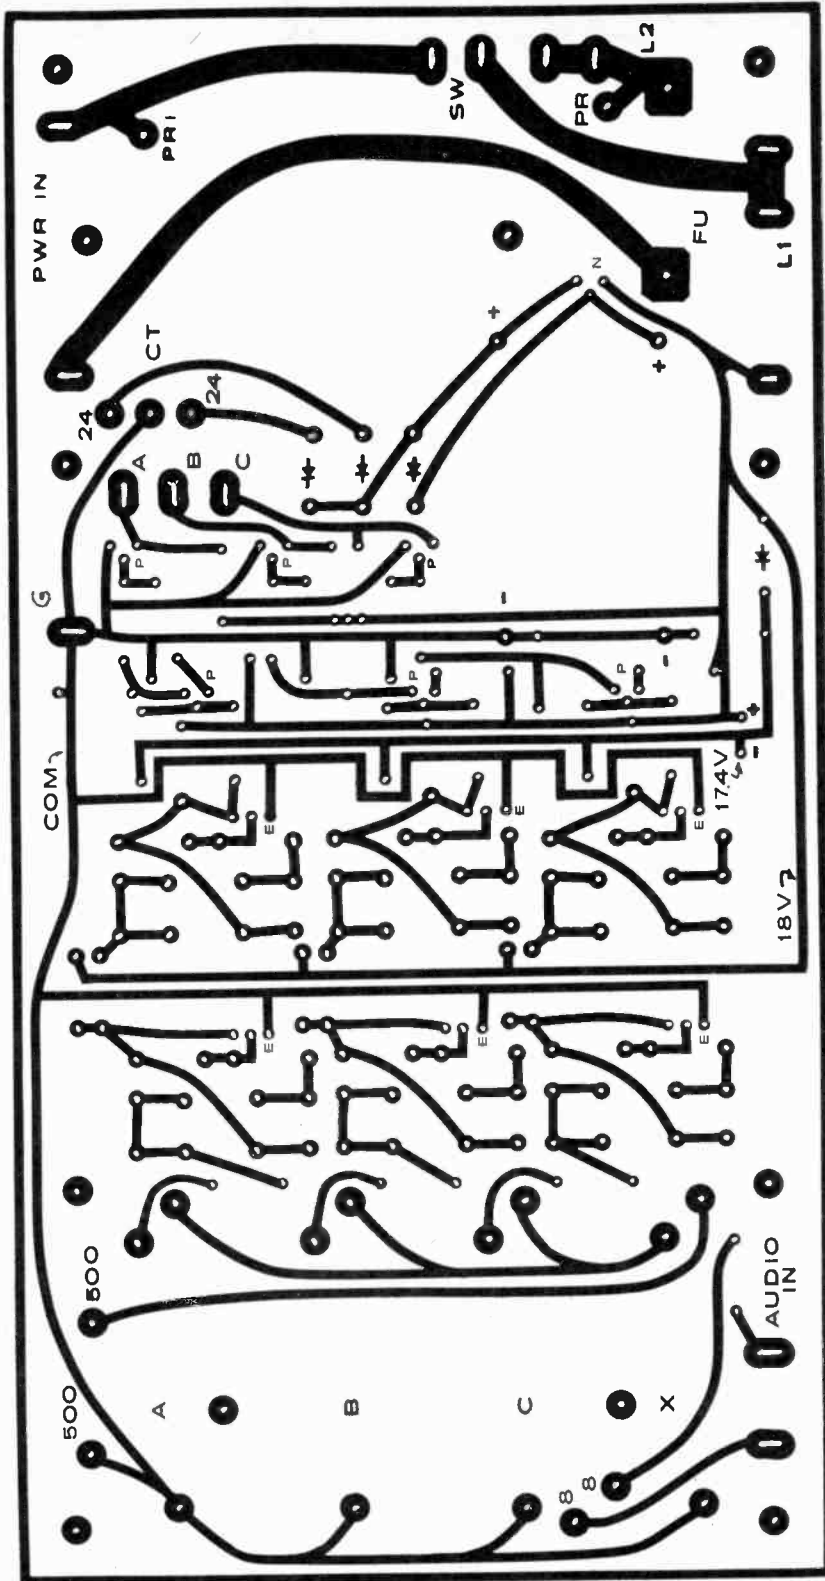
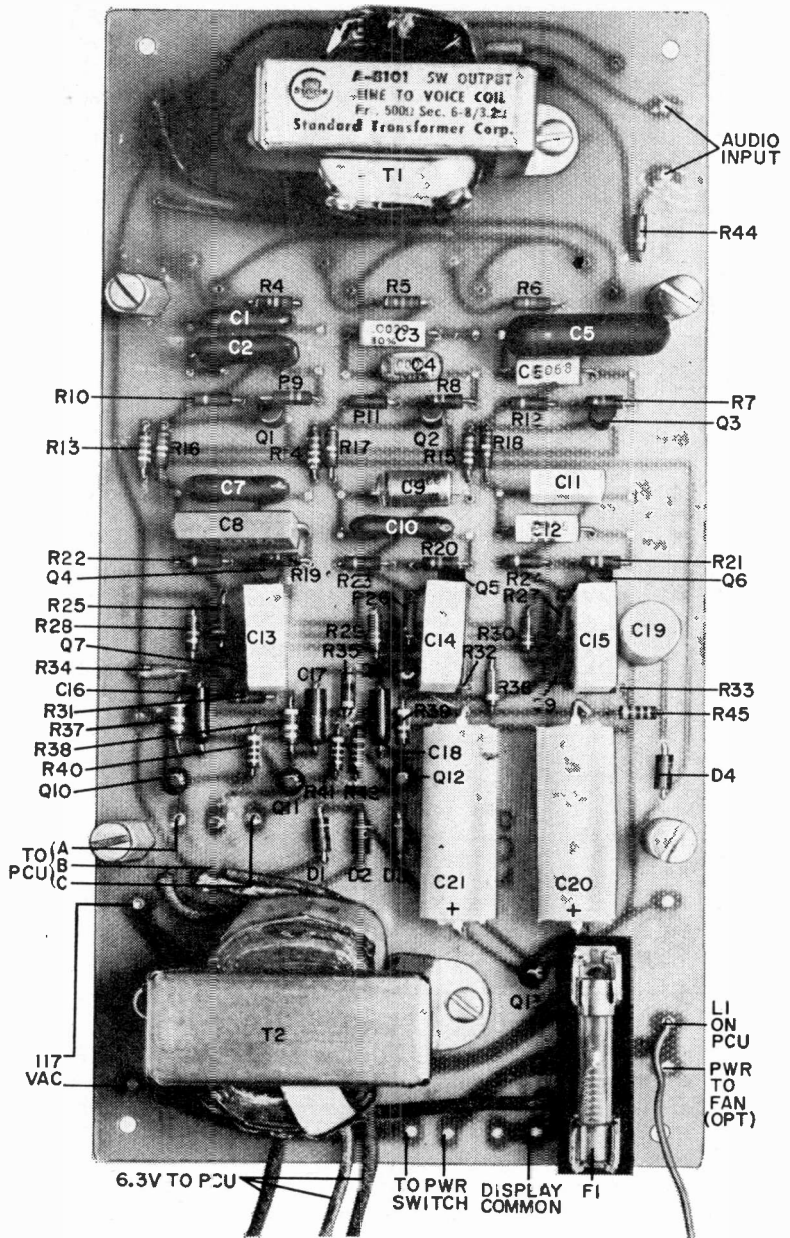

Fig. 5. You can copy this actual-size foil pattern for the QFU PC board or buy the board readymade.
Fig. 6. Component installation on QFU PC board. Also shown are connections made to the board.
**Construction of the QFU.** The schematic of the QFU is shown in Fig. 4 and an actual-size foil pattern for the PC board is in Fig. 5. Components are installed on both sides of the PC board. The units on the foil side are shown in Fig. 6. Install the four slide potentiometers with the blue at *R1*, green at *R2*, red at *R3*, and white at *R4*. The components on the other side of the board are shown in Fig. 7. Transformers *T1* and *T2* are pop-